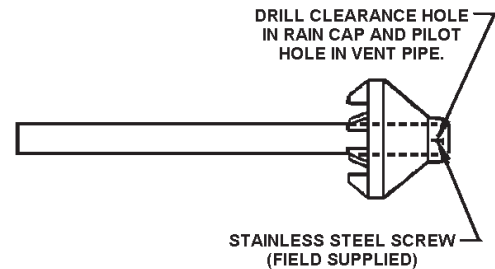

Figure 26
- Cement rain cap to smaller diameter kit pipe, see Figure 26.
NOTE: Instead of cementing the smaller pipe to the rain cap, a field-supplied stainless steel screw may be used to secure the 2 components together when field disassembly is desired for cleaning, see Figure 26.
- Cement the rain cap to the smaller diameter kit pipe, see "Figure: 26".
NOTE: Instead of cementing the smaller pipe to the rain cap, a field-supplied stainless steel screw may be used to secure the 2 components together when field disassembly is desired for cleaning, see "Figure: 26".